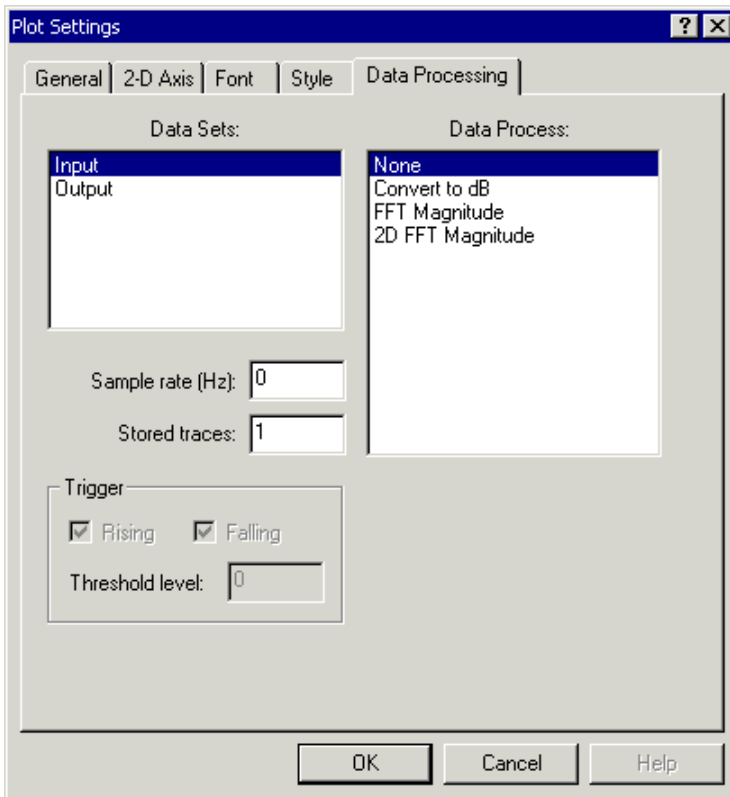

Figure 2-32. Data Processing Page
- a. Click the **Data Processing** tab to display the **Data Processing** page, shown in Figure 2-32.
6. Click the **Data Processing** tab to display the **Data Processing** page, shown in Figure 2-32 on page 2-46. Complete this page as follows.